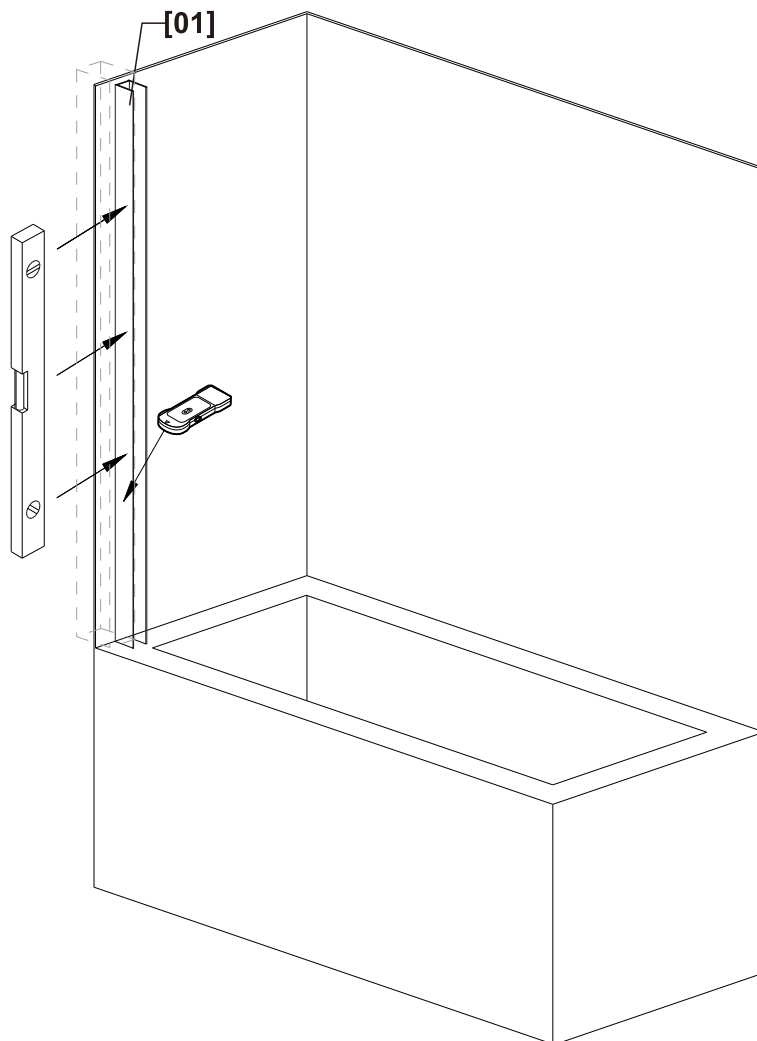

Fig 1
IMPORTANT: Using a stud finder, ensure the wall intended to hold the door has a stud at the installation point. If there is no stud in the shown area, we recommend employing a qualified contractor to install one. (Fig 1)
3. Using a level, position the **Wall Post [01]** on the tub deck and against the wall, in line with your threshold/tub deck. This unit requires 1" of flat tub deck space for installation (Fig 1).